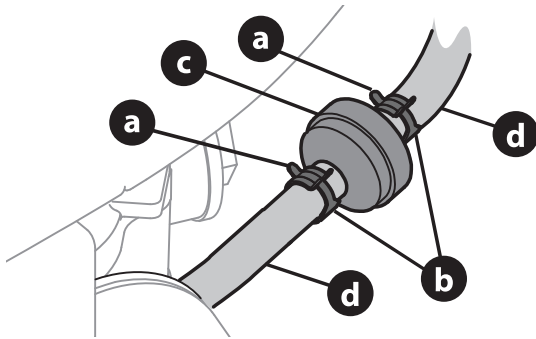

Figure 15
2. Use pliers to squeeze tabs (a) on the clamps (b), then slide the clamps away from the fuel filter (c) (Figure 15).